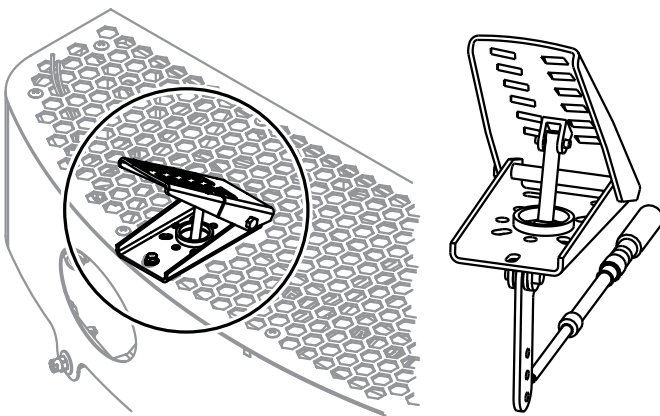

Figure 9. Blade Speed Control Foot Pedal
2. The foot pedal (Figure 9) controls blade and engine speed. The position of the foot pedal determines the blade speed. Slow blade speed is obtained by slightly depressing the pedal. Maximum blade speed is obtained by fully depressing the pedal.